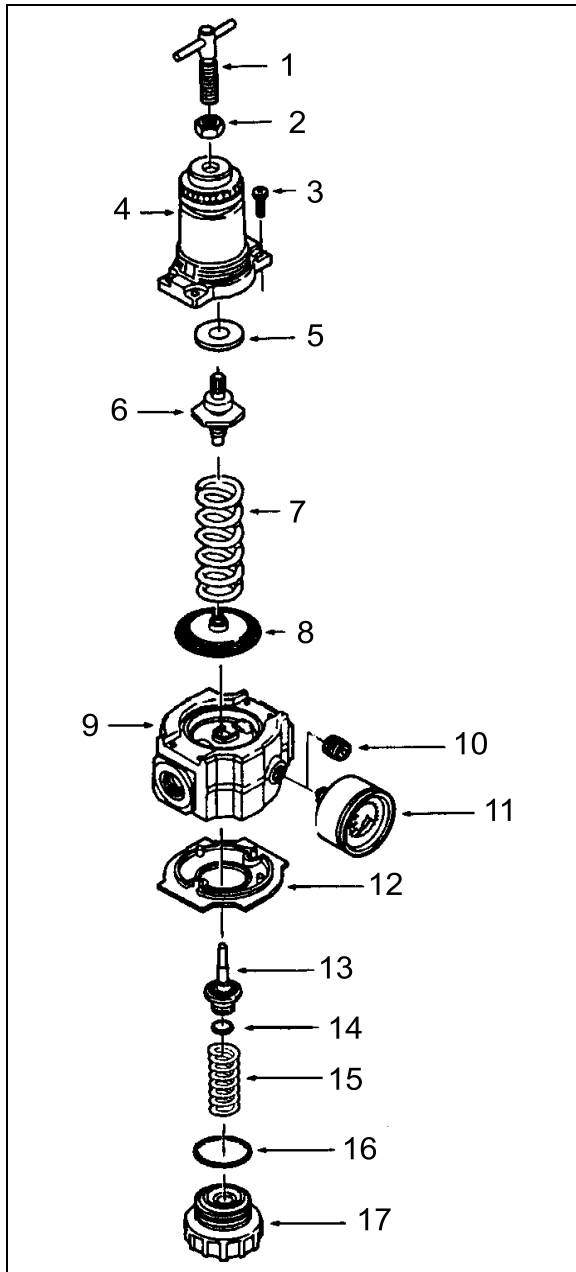

FIGURE 40: AIR PRESSURE REGULATOR
1. Before turning on system air pressure, release jam nut (2, Figure 40) then turn regulator adjustment handle counterclockwise until the load is removed from the regulating spring.
5. Tighten jam nut (2, Figure 40) to lock pressure setting.
1. Shut off inlet pressure and reduce pressure in inlet and outlet lines to zero. Turn regulator adjustment handle (1, Figure 40) counterclockwise until all load is removed from regulating spring. Regulator can be disassembled without removal from air line.
1. Lubricate O-ring (14 and 16, Figure 40), valve stem (13), tip of adjusting screw (1), and the outer circumference and both sides of the thrust washer (8) with a light coat of good quality O-ring grease.